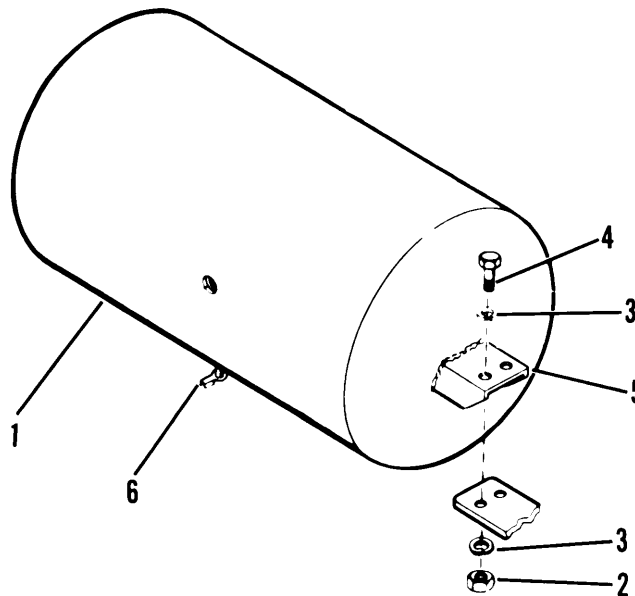

Figure 4-35. Air Reservoir
- (1) Tag and disconnect air line connected between air reservoirs (M871A1) being removed.
- (2) Remove four nuts (2, fig. 4-35), eight washers (3), and four bolts (4) from bracket (5) (welded to air reservoir).
- (3) Remove air reservoir (1).
- (4) Remove drain cock (6) and fittings from air reservoir (1).
- (1) Install drain cock (6, fig. 4-35) and fittings on air reservoir (1).
- (2) Line up holes in air reservoir brackets (5) with holes in frame (6).
- (3) Secure air reservoir (1) with four bolts (4), eight washers (3) and four nuts (2).
- (4) Install air line between air reservoirs (M871A1).